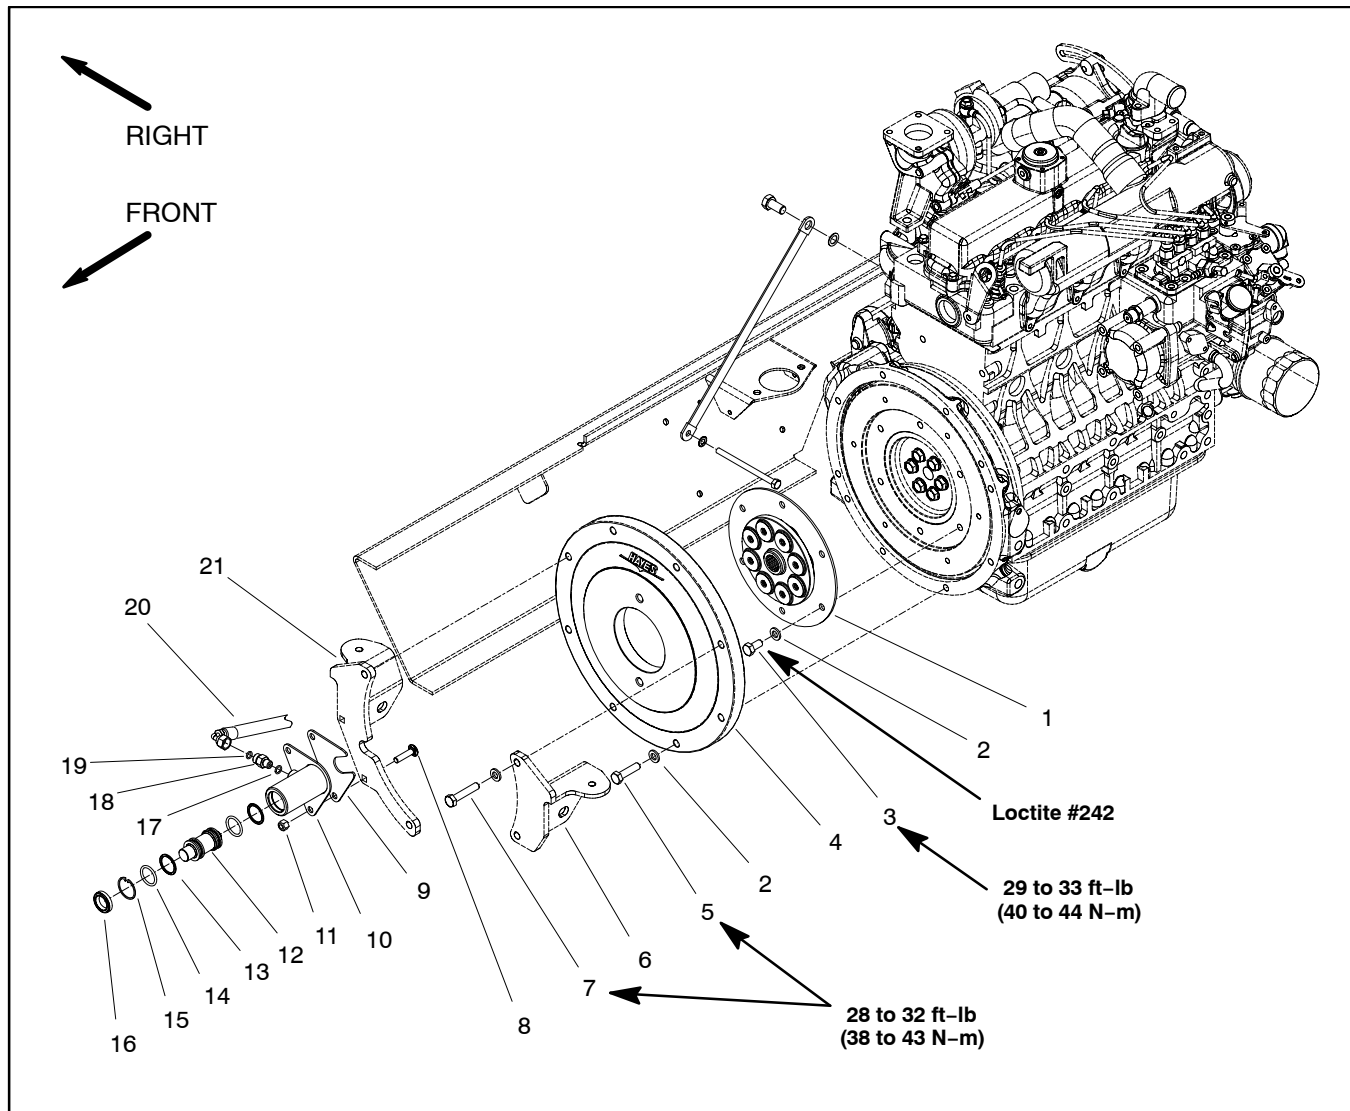

Figure 15
Coupler Removal (Fig. 15)
2. Remove flywheel plate and spring coupler from engine using Figure 15 as a guide.
Coupler Installation (Fig. 15)